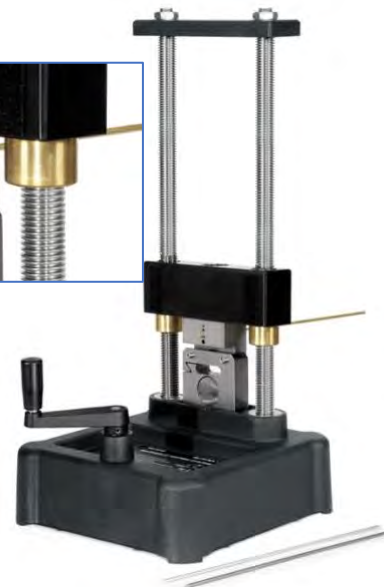

Figure 4: Shear Testing Round Rod
7. Slide the rod completely through, leaving only a small amount sticking out the front, as shown in Figure 4. The small tab sticking out makes it easier to remove once it is sheared, but you don't want to use any more material than you have too!